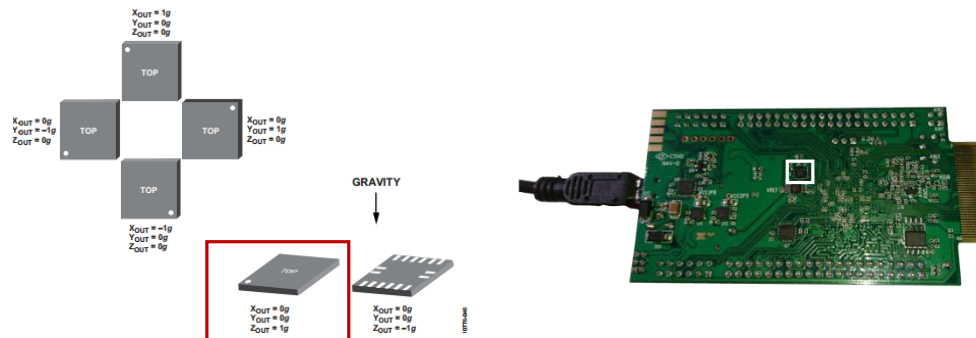

Figure 13: Axis data output according to accelerometer orientation [4].
- Build and download the program. Observe in the Nios II console window, data output from the accelerometer. Start with the accelerometer in its top position and notice how the output data is changed as you move and rotate the device according to figure 13.
As the BeMicro board is moved according to description in figure 13, the data output changes. Notice in figure 14 that the data output represents the accelerometer in its horizontal position, top side up, see figure 13.